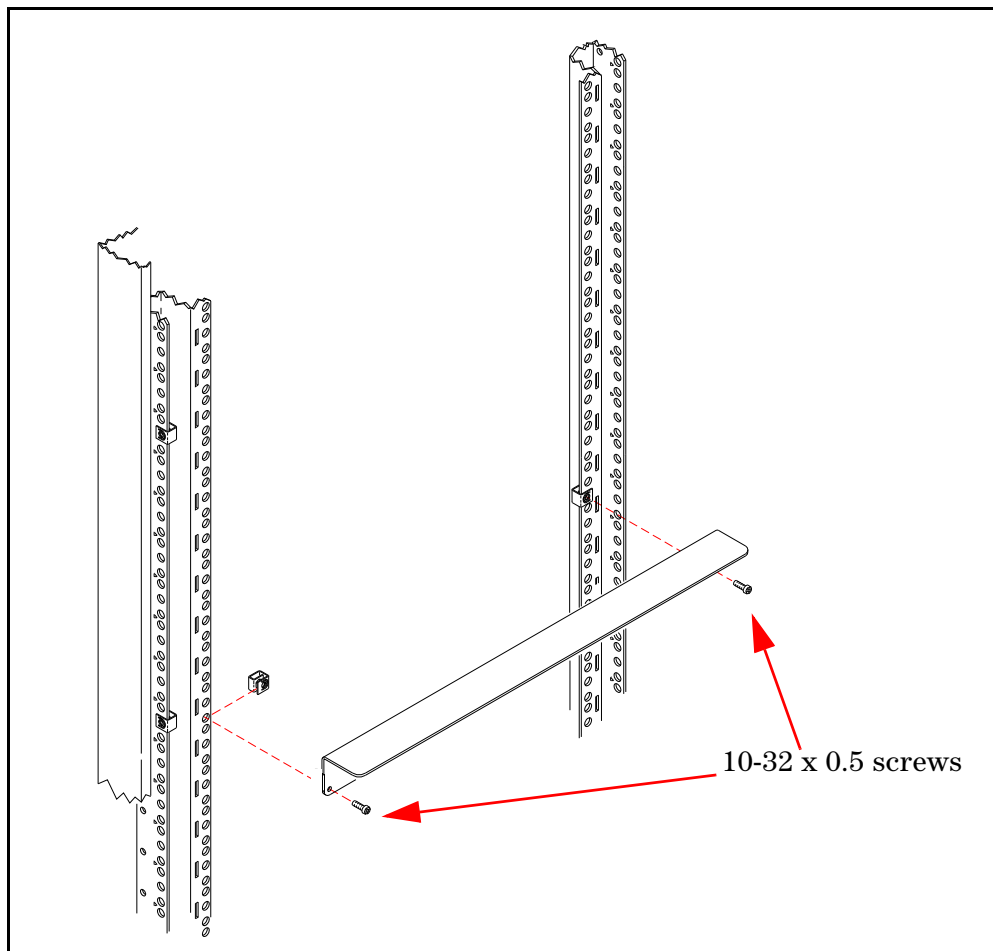

Figure 4 . Attaching the Support Rails to the Rack.
To provide adequate air flow to the ventilation holes on the sides of the chassis, you must install the rack slides upside down as shown in Figure 4.
- 8 Attach the support rails **UPSIDE DOWN** to the rack's inside vertical columns. Use four channel nuts and the four 10-32 x 0.5 support rail-to-rack pan head screws as shown in Figure 4.